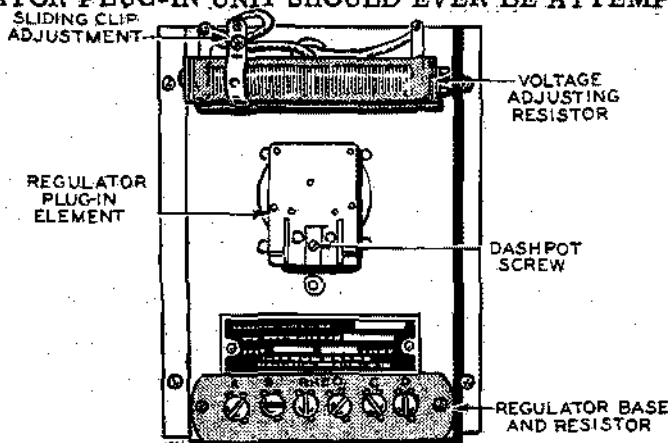

FIG. 21. REGOHM VOLTAGE REGULATOR ADJUSTMENT
6. Set the adjustable resistor, which is mounted either separately or on the regulator base (see Figure 21.), to obtain the rated AC voltage. Very little movement of the sliding clip will be necessary. Be sure to retighten the clip after the adjustment is completed.
**REGOHM VOLTAGE REGULATOR DASHPOT ADJUSTMENT.** - If a hunting voltage condition exists, after the Governor has been adjusted, the voltage regulator dashpot must be adjusted. See Figure 21. To adjust the voltage regulator dashpot, proceed as follows: